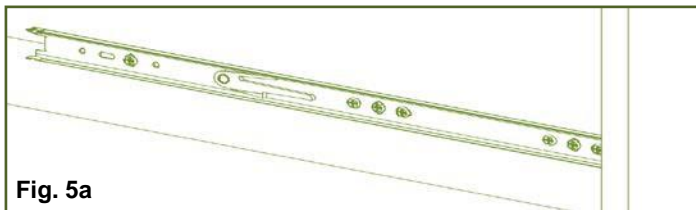
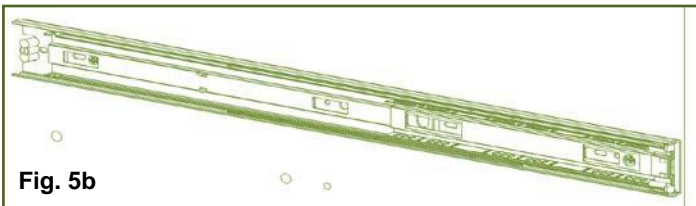

Fig. 5a
Fig. 5b
Locate the Drawer Glides as shown in Figure 5a on the Drawer Assembly (Items 6, and 7). Locate the Glide-Insert as shown in Figure 5b on the Pedestal Assembly (item 5) of the currently assembled product.